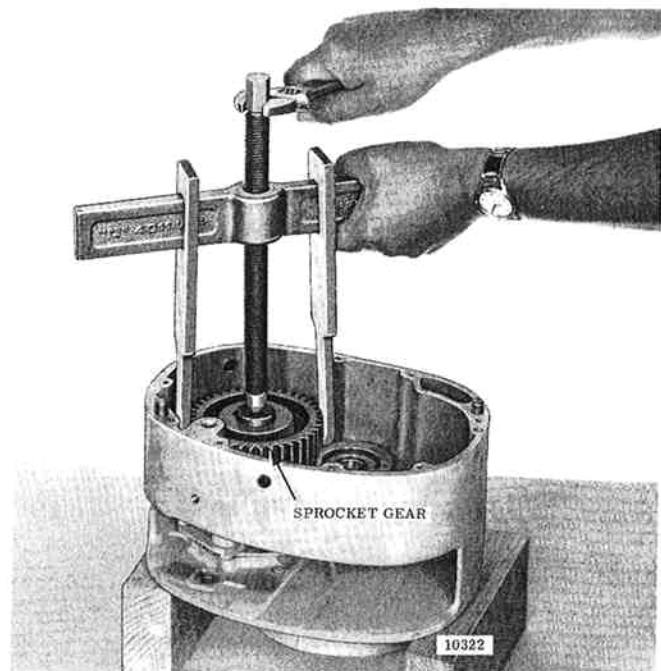

Figure 7-10. Pulling Sprocket Gear from Sprocket Shaft Using Common Puller.
(1) Remove retaining ring from end of sprocket shaft and pull off sprocket gear using a common puller (fig. 7-10). Remove Woodruff key from shaft.